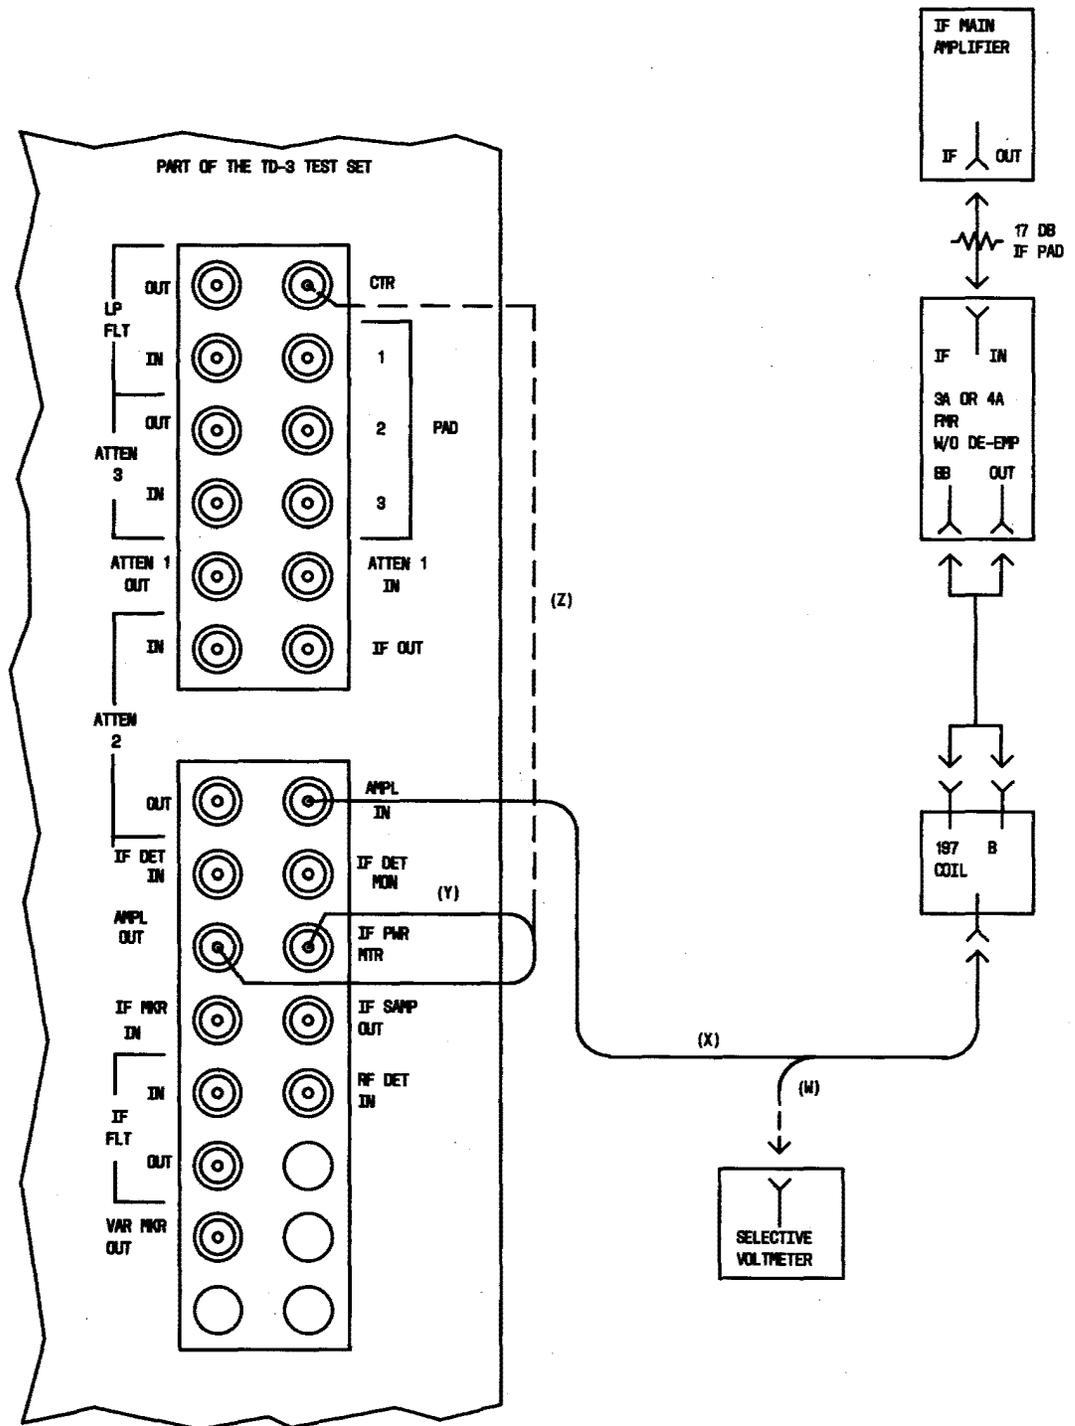

Fig. 9—9-MHz Sideband Power and Frequency Measurement
| 16   | Connect the test setup as shown in Fig. 9, option (W).  |
| 18   | Connect the test setup as shown in Fig. 9, options (X) and (Y).   |
16 Connect the test setup as shown in Fig. 9, option (W).
18 Connect the test setup as shown in Fig. 9, options (X) and (Y).